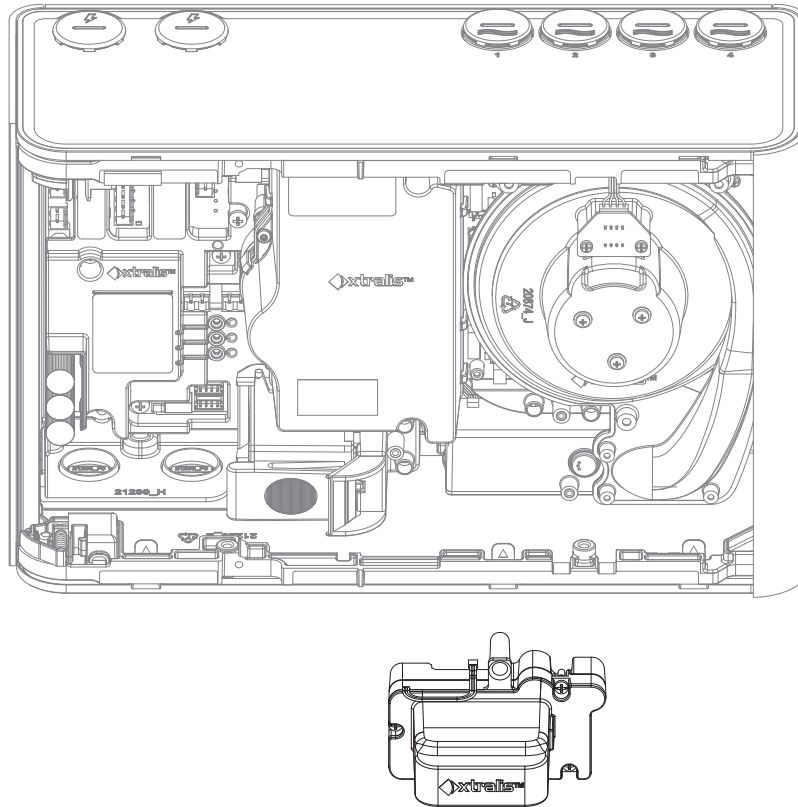

Figure 7-22: Remove Sampling Module
6. Remove the Sampling Module. Be sure to include the rubber seal on the base of the Sampling Module (Figure 7-22).